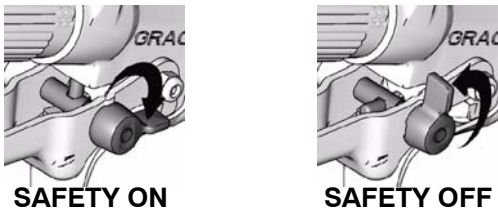

Fig. 1
1. Put in-line valve trigger safety lever in SAFETY ON position. Fig. 1.
3. Put in-line valve trigger safety lever in SAFETY OFF position. Fig. 1.
6. Put in-line valve trigger safety lever in SAFETY ON position. Fig. 1.
For SAFETY ON position, rotate trigger safety lever so it is in line with trigger. For SAFETY OFF position, flip safety lever so it is 90° to trigger. Fig. 1.
1. Put in-line gun trigger safety lever in SAFETY ON position. Fig. 1.
3. Put in-line valve trigger safety lever in SAFETY OFF position, and trigger in-line valve into pail or onto ground to remove clog. Fig. 1.
4. Put in-line valve trigger safety lever in SAFETY ON position (Fig. 1), and rotate arrow-shaped handle (Fig. 4) to SPRAY position.